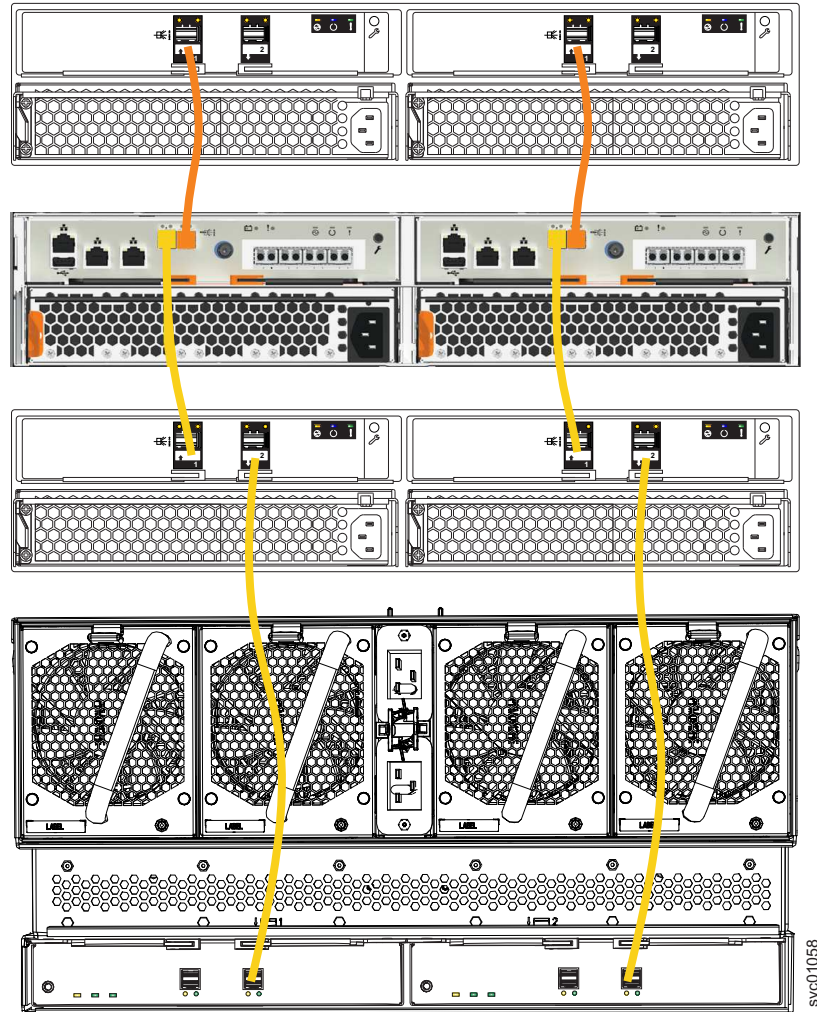

Figure 99. Connecting the SAS cables
1. Install the cables, as shown in Figure 99 on page 119.
Note: Figure 99 on page 119 shows the cable connections between the SAS enclosures and the Storwize V5030 control enclosure. It does not imply or represent the precise racking order for the enclosures in a rack. However, due to its size and weight, always place the 2077-92F enclosure near the bottom of the rack.
As Figure 99 shows, you can combine 2145-24F, 2145-12F, and 2077-92F enclosures in a SAS chain. The limiting factor is the combined *chain weight* of the various components. The maximum SAS chain weight that can be attached to a node SAS port is 10: